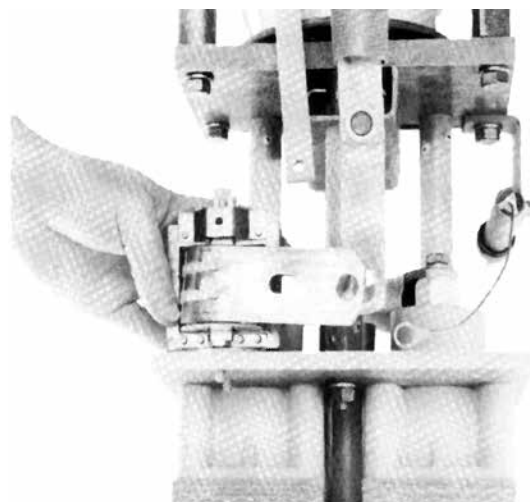

Figure 8. Removing series trip solenoid.
4. Remove the two frame mounting bolts that secure the solenoid frame to the mounting board, and lift the entire solenoid assembly off the mounting board. See Figure 8.